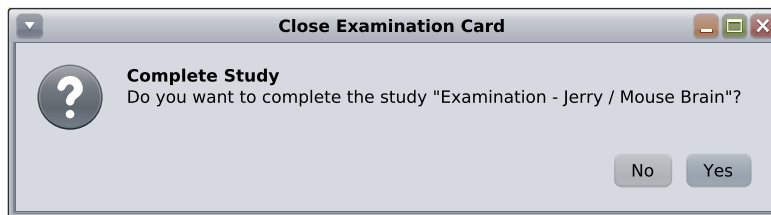

Figure 1.3: Dialog Complete Study
- If the option Window > Options > Examination > Study > Complete at Examination Card Closing is set to `Ask` the dialog shown in [Figure 1.3 \[▶ 29\]](#) asks if the study should be completed. On completed studies normally no further examinations are possible.